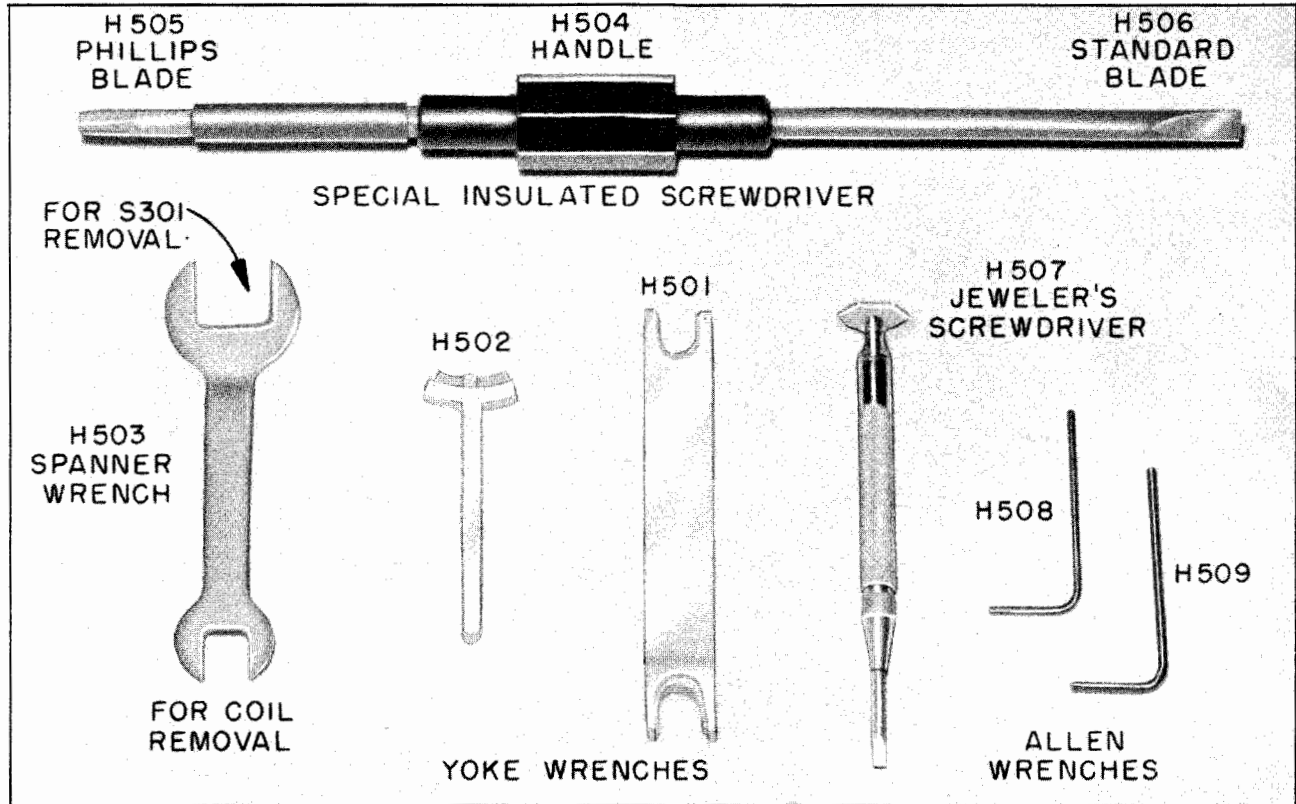

Figure 7-5.—Special Tools.
(1) With the CHANNEL SELECTOR positioned so that the correct channel number appears on the crystal lock bar, remove coil L102 and/or coil L103 (figure 7-6A) by loosening the hex bolts at either end of the coil, using the small end of spanner wrench H503 supplied in the tool kit (see figure 7-5).
(2) Remove yoke L105 (if necessary) by loosening the two small screws securing the two halves of the yoke, as shown in figure 7-6B. Use jewelers' screwdriver H507 supplied in the tool kit (see figure 7-5).
(3) Tune C101 (figure 7-7C) with special insulated screwdriver H506 in the tool kit (figure 7-5) for a dip of approximately 1 unit in the meter reading.
(10) Move the test probe to TP104 (figure 7-7B) to read final amplifier (V104) plate current and tune the outer yoke of L104 (figure 7-7H) for maximum meter reading. This will be a broad maximum and is not critical. Either one of the two transparent plastic wrenches (H501 or H502, figure 7-5) in the tool kit may be used for yoke adjustment.
(14) Disconnect the antenna or dummy load from the end of the 10-foot antenna cable and attach the noise probe from the tool kit (figure 7-5) to the cable. Insert the probe all the way into J401 (figure 7-7J), put on the headset, and adjust the receiver VOLUME Control for a comfortable background noise level.